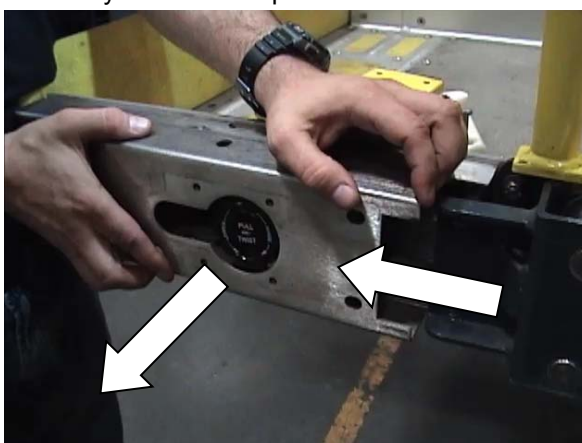

FIGURE 4-10: RH ROLLSTOP COVER
- 5) Refer to **Figure 4-10**. Remove RH Rollstop Cover by sliding cover forward to match hole with Manual Release Knob then carefully detach from platform.